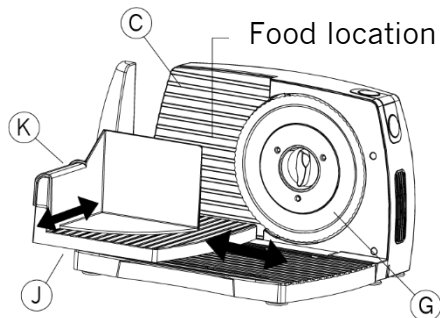

fig.6
6. Slide the feed tray away from the blade and slide the protective guard away from the face plate (fig. 6)
7. Taking care not to touch the blade, place the food to be sliced onto the feed tray between the protective guide and the face plate (fig. 6).